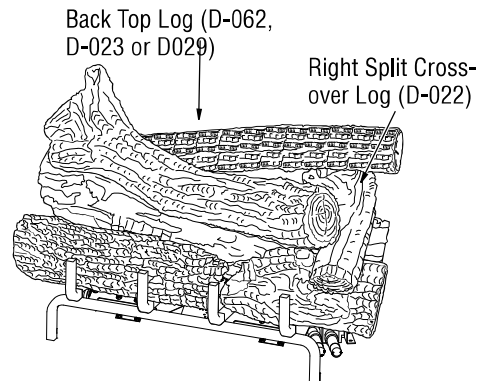

Figure 29 - Installing Back Top Log and Final Assembly
8. Find the back top log (LMF24GTA/B or LMF24MOA/B models: D-062, LMF30GTA/B or LMF30MOA/B models: D-023, LMF36GTA/B or LMF36MOA/B models: D-029). See **Figures 29, and 29A**. The left end of this log has a round hole that fits over the round peg that is on the top of the back left log. The right end of this log has a rectangular hole that fits over the rectangular peg on the top of the right crossover log.